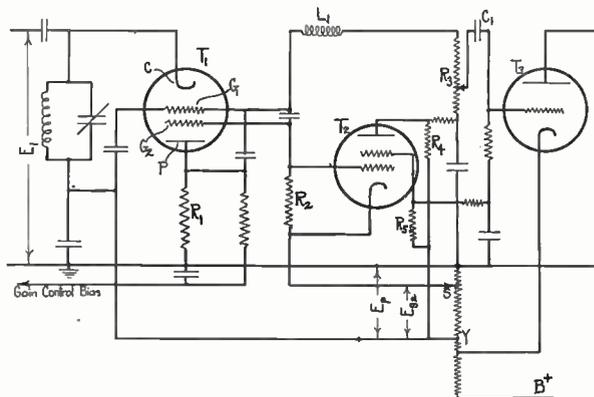
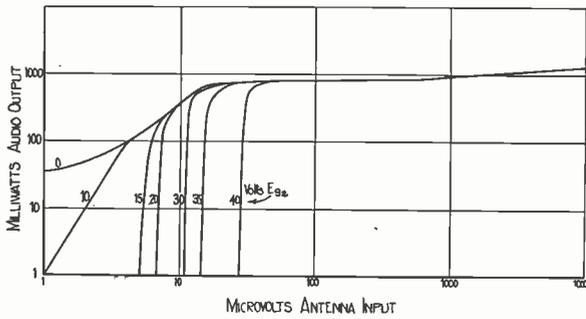

Fig. 4. Circuit diagram of detector-automatic control system using a relay tube to effect noise suppression.
Fig. 5. Measured output-input relations in a high-gain receiver with the control system of Fig. 4. ($m = 10\%$. E_{c2} varied.)
Another development in the direction of satisfactory noise-suppression arrangements consisted in the use of three diode rectifiers in a common envelope in parallel at point (1) in the system of Fig. 2. Fig. 4 illustrates features in its operation that are to be identified with the functional diagram in Fig. 2. The cathode, C, of tube T_1 , the outer electrode P, and resistor R_1 form one rectifier which together with a steady delay bias, E_p , constitutes unit J of Fig. 2. The input E_1 to unit J, point (1) in Fig. 2, is also the input to a second rectifier circuit employing C, G_2 , and R_2 . This second rectifier circuit together with its delay bias E_{g2} and d-c. amplifier tube T_2 constitutes unit K of Fig. 2. The rectifier elements C, G_1 , and R_3 serve as a detector.
veloped across the independent output circuit resistors R_4 and R_5 . The output across R_4 is adjusted so that for peak carrier levels at E_1 less than E_{g2} a large delay bias is inserted in the third diode detector circuit of tube T_1 in series with R_3 . The transmission system after point (1), E_1 of Fig. 4, and leading to the audio output through diode element G_1 , choke L_1 , and resistor R_3 is thus rendered inoperative for the peak carrier levels less than E_{g2} . For values of E_1 greater than E_{g2} but less than E_p , the output across R_4 changes so as to remove the bias in series with R_3 , thus allowing the transmission system beyond E_1 and up to C_1 to regain its normal operation before the automatic gain control bias in R_1 begins. At the same time it will be noted that the elements of Fig. 4 constituting the unit K provide an additional output channel from resistor R_5 which leads to a control of bias in the grid circuit of the audio amplifier tube T_3 . Thus for weak carrier levels at E_1 less than E_{g2} the main transmission system beyond C_1 is also made inoperative and for values of E_1 in the range between E_{g2} and E_p , normal transmission beyond C_1 in the main system is restored. Adjustment of the arm S along the resistor between ground and the positive d-c. potential at point Y makes possible a selection of the carrier level at the antenna, below which no receiver output is obtained.
From the earlier remarks on the general requirements for satisfactory noise-suppression characteristics and reference to Fig. 2 it will be apparent that the input to tube T_2 may take the form of carrier frequency voltage, tube T_2 of Fig. 4 acting as a rectifier with a critical bias, in which case the d-c. output of T_2 should be obtained in an opposite sense to that shown if plate-circuit rectification is used. It is likewise apparent that the output of unit K may be made to act at any point or points in the main transmission system after (1), but that it is preferable to control the transmission beyond (1) at points where the voltage levels are as small as possible.
It is believed that a plot of receiver output power against antenna carrier input level for various settings of noise suppression bias should be of interest. Fig. 5 illustrates the operation of a high-gain receiver with normal automatic gain control supplemented by the noise-suppression circuit of Fig. 4 and is to be compared with the hypothetical case shown in Fig. 1. The carrier modulation was set at 10% and the various curves correspond to setting arm S of Fig. 4 at different positions, E_{c2} thus varying from zero to a maximum value of 40 volts. With $E_{c2} = 0$ considerable noise output is obtained at weak carrier levels, but E_{c2} may be adjusted
It will be apparent from the experiment curve $E_{c2} = 0$ of Fig. 5 that the usual automatic gain control action through unit J begins at an input of about 15 microvolts. The curve for $E_{c2} = 40$ volts represents a condition in which the transmission beyond E_1 is not fully restored until the automatic control through unit J is well established. The effect of an additional five volts at E_{c2} is thus greater going from 35 to 40 volts than in going from 30 to 35 volts because the carrier voltage at